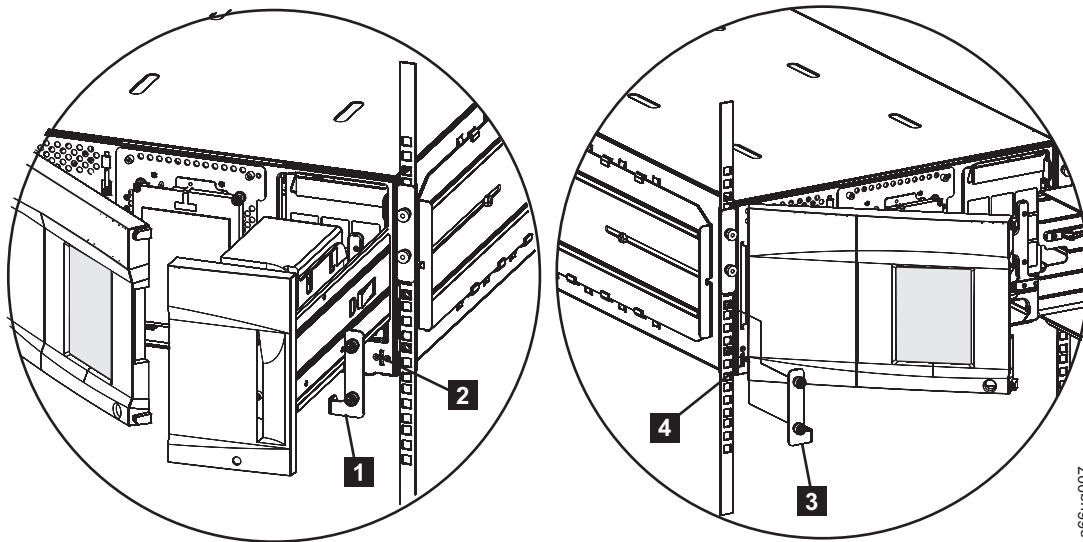

Figure 11-12. Removing the rack ears on a Control Module
- b. Remove the right rack ear (**1** in Figure 11-12).
- c. Remove the left rack ear (**3** in Figure 11-12).